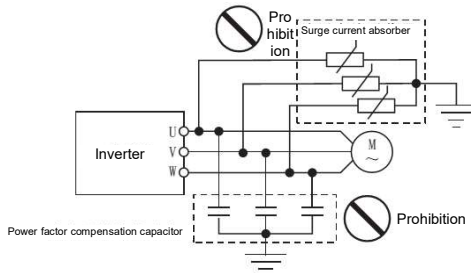

Figure 1-3
• Since the output voltage of the inverter is PWM pulse wave, please do not install capacitors or surge current absorbers (such as piezoresistors) at its output end, otherwise the inverter will fail and trip, and even the power components will be damaged. If installed, be sure to remove it. As shown in figure 1-3.